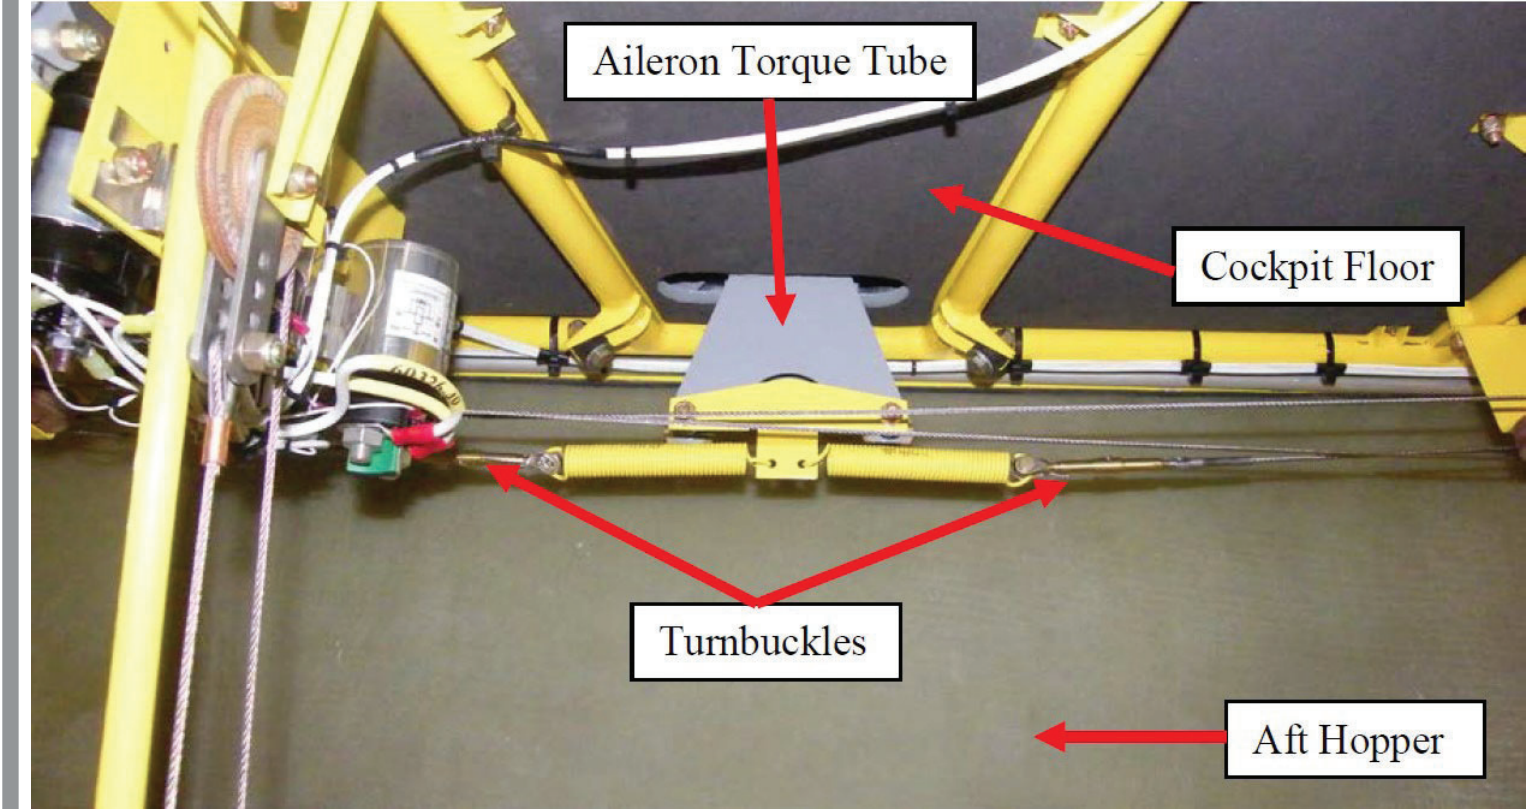

Figure 3 – Rudder-Aileron Interconnect Turnbuckles (under cockpit looking forward)
11. If necessary to match the dimension stated in Step 9, adjust the turnbuckles on the cables. See Figure 3. After adjusting, safety the turnbuckles with MS20995C32 wire (Reference: FAA Advisory Circular 43.13-1B).